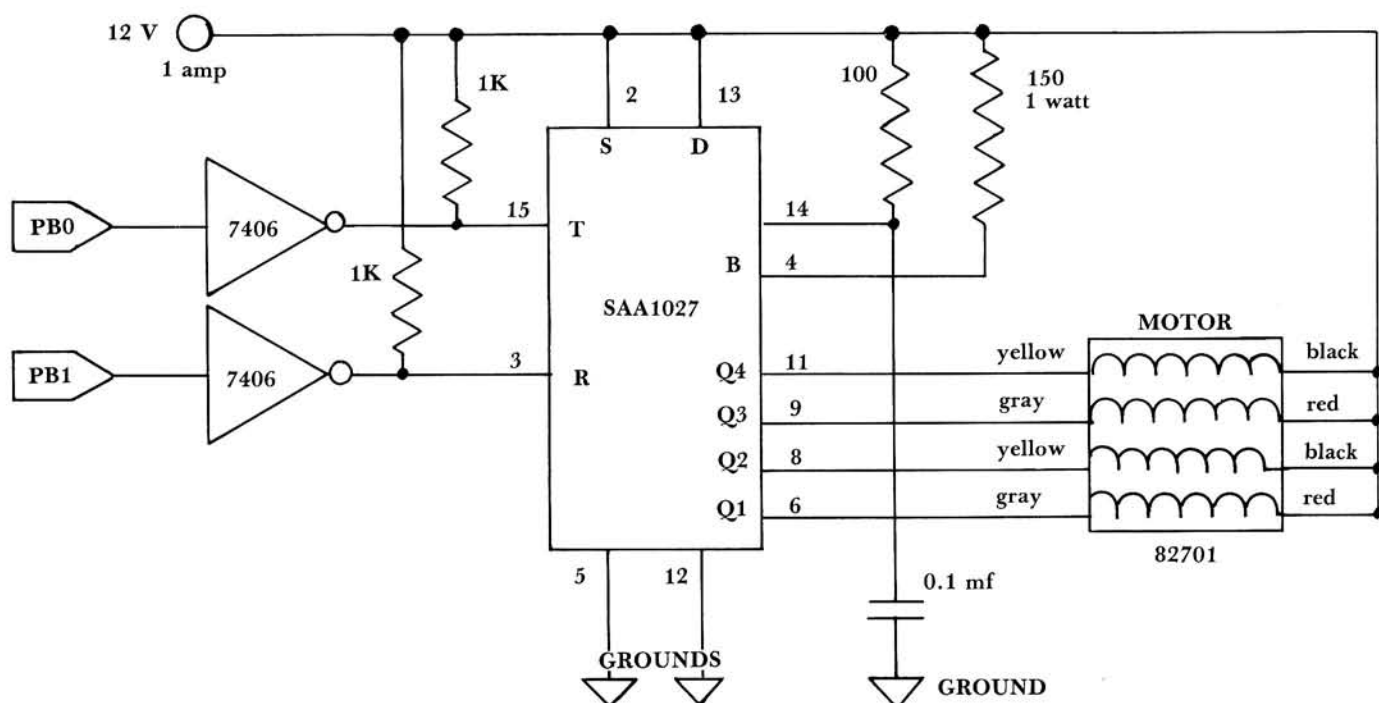

Figure 1. Stepper motor interface. The SAA1027 is a special driver integrated circuit. The 7406 will also require five volts for its own power.
The circuit shown in Figure 1 and the programs given in Listing 1 allow you to drive a stepper motor with your 6502 based microcomputer. Why run a stepper motor? Perhaps to drive a solar panel to follow the sun, homebrew your own x-y plotter, run a pump at a preselected rate, or turn your robot's head. Whatever your application may be, here is some information to get you started working with stepper motors. You will want to get additional information from the following companies:
The circuit of Figure 1 consists of a 7406 inverter with high voltage open-collector outputs. Two pins of the Port B application port on the computer drive the 7406 which in turn controls the trigger (T) input and the rotation directn (R) input on the stepper motor IC driver. The driver chip controls the stepper motor.